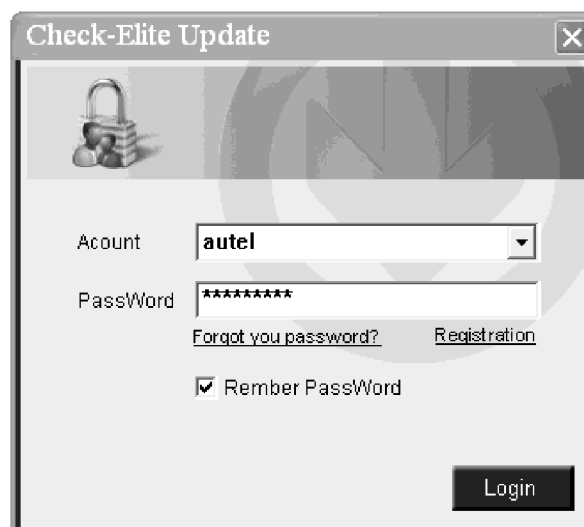

Figure 8.2
4. Run the update option in **Check-Elite PC Suit** software. Wait for the Log In window to pop up. (Figure 8.2)